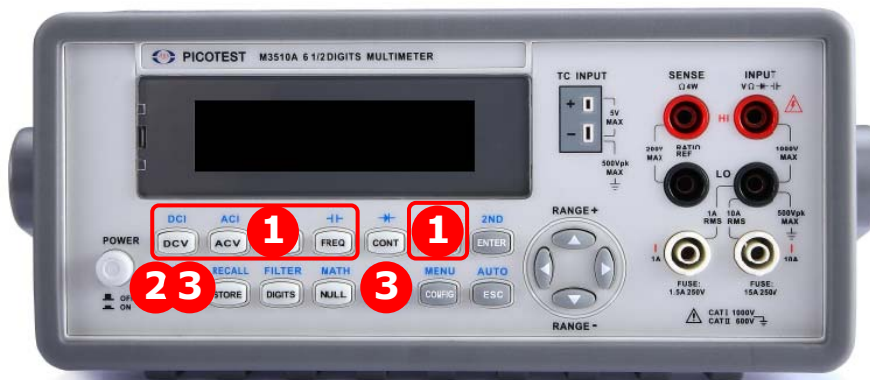

Figure 4-16
1. Press one of the measurement function keys to select a measurement function as shown in **Figure 4-16**.